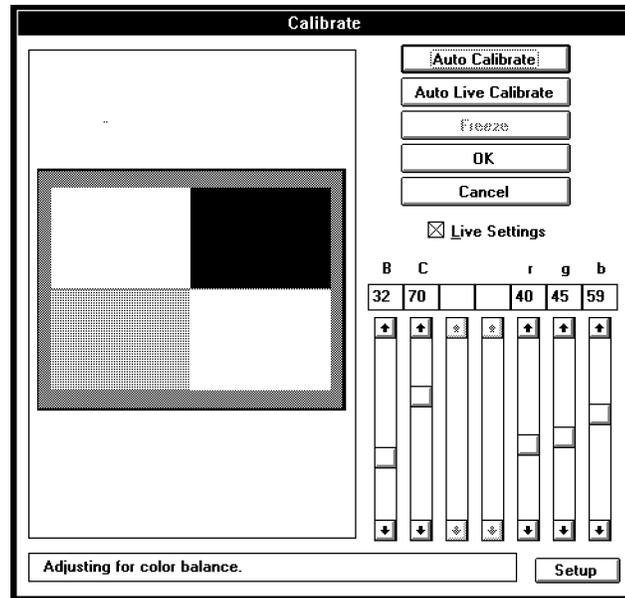

Figure 4-8. Target Viewed in Calibrate Dialog Box
8. Hang the calibration target oriented as shown in Figure 4-8 on the portrait backdrop in the same position as the typical applicant's head. (The top of the target should be at the same height as the top of an applicant's head.) If necessary, aim the camera to center the target in the Calibrate dialog box.